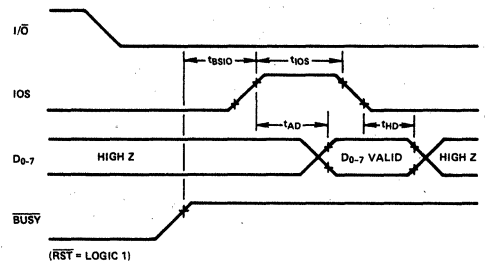

Figure 6. Data Read Timing
4. DATA READ COMMAND (Figure 6)
A DATA READ COMMAND is as follows: Put I/\bar{O} LOW (OUTPUT mode) and put IOS HIGH. (The 3-state buffers are activated when IOS is HIGH). Timing is shown in Figure 6.